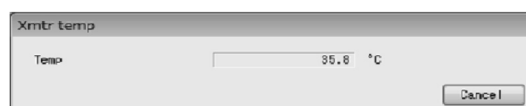

Fig.162
- ⑧ Click "Cancel" to close the "Xmtr temp log" window.
- ① Click the "Maintenance (M)" menu, and then select and click "Xmtr temp" from the "Maintenance xmtr" drop-down list.
- ② A window such as the one shown in Fig. 162 will appear, displaying the transmitter's current internal temperature. After verifying the temperature, click the "Cancel" button to exit "Xmtr temp".